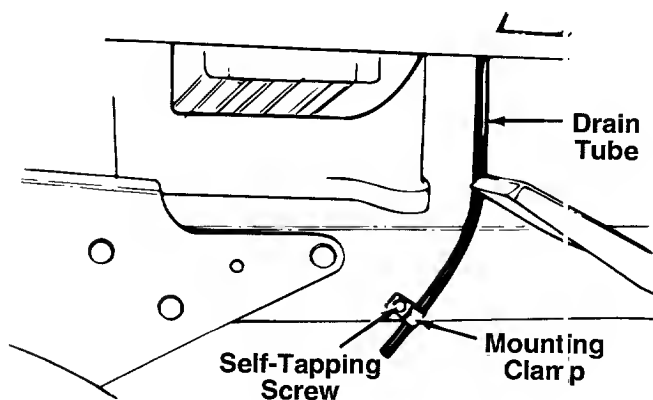

FIGURE 6.
6. Route the battery drain tube over to the **left** side of the tractor. Loosen the self-tapping screw which secures the mounting clamp. See figure 6. Slip the end of the drain tube into the mounting clamp. Tighten the self-tapping screw to secure the clamp. Do not overtighten which could collapse the drain tube.